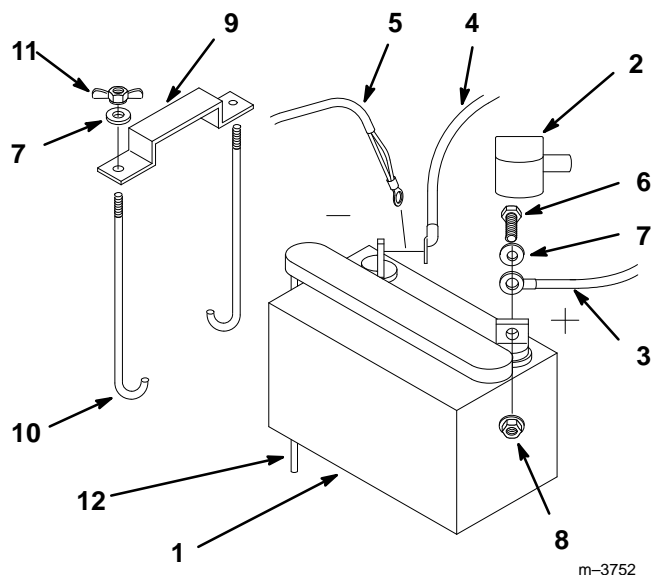

Figure 7
9. Position battery in tray with terminal posts toward the engine (Fig. 7).
11. Secure cables with (2) 1/4 x 3/4" (19 mm) bolts 1/4" washers and 1/4" locknuts (Fig. 7).
13. Secure battery with J-bolts, hold down clamp and (2) 1/4" washers and (2) 1/4" wing nuts (Fig. 7).